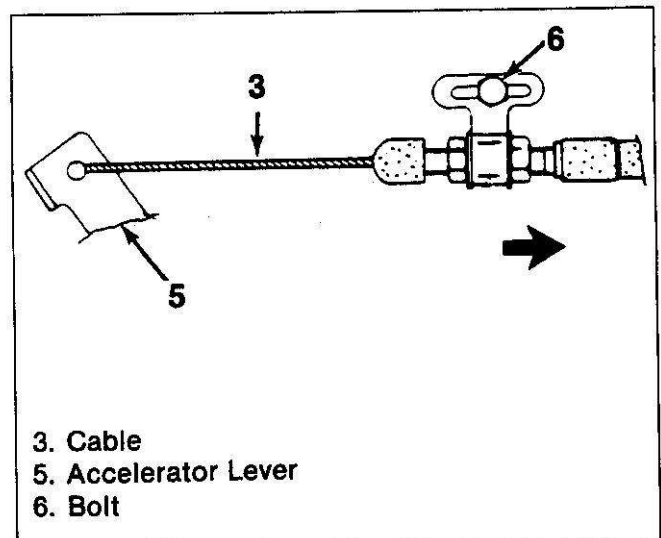

Figure 12. Accelerator Linkage Adjustment
Adjust (Figure 12)
- 2. Loosen the bolt (6) on the cable bracket (figure 12).
- 3. Hold the accelerator lever (5) in the fully closed position and remove slack from the cable (3) by pulling in the direction of the arrow.
- 4. Tighten the bolt (6).